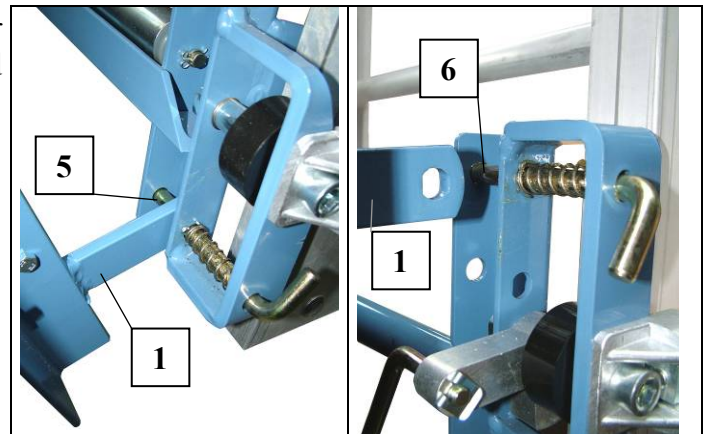

Fig. 42 Assemble universal platform
- Hook vario-platform (like the universal platform) to the lower spring catches on the sliding carriage and secure on both upper spring catches (see Fig. 42).
- Remove support latch (4).
- Pull telescopic tube (8) out of the locking screw (9) and unfold.
- Secure telescopic tube (8) again.